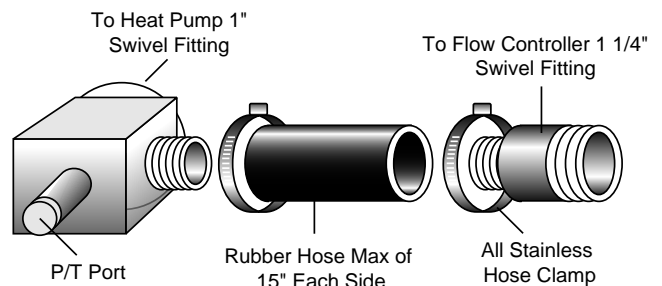

Figure 5 - AHK5E Hose Kit Typical Detail
**Unit side piping** is typically connected using the ClimateMaster hose kit (AHK5E) which contains all fittings necessary for connection between the flow controller and the unit as shown in Figure 5. In the AFCS1A remove cover and make connections as shown in Figure 4, remembering all areas of the piping should be insulated to prevent condensation.